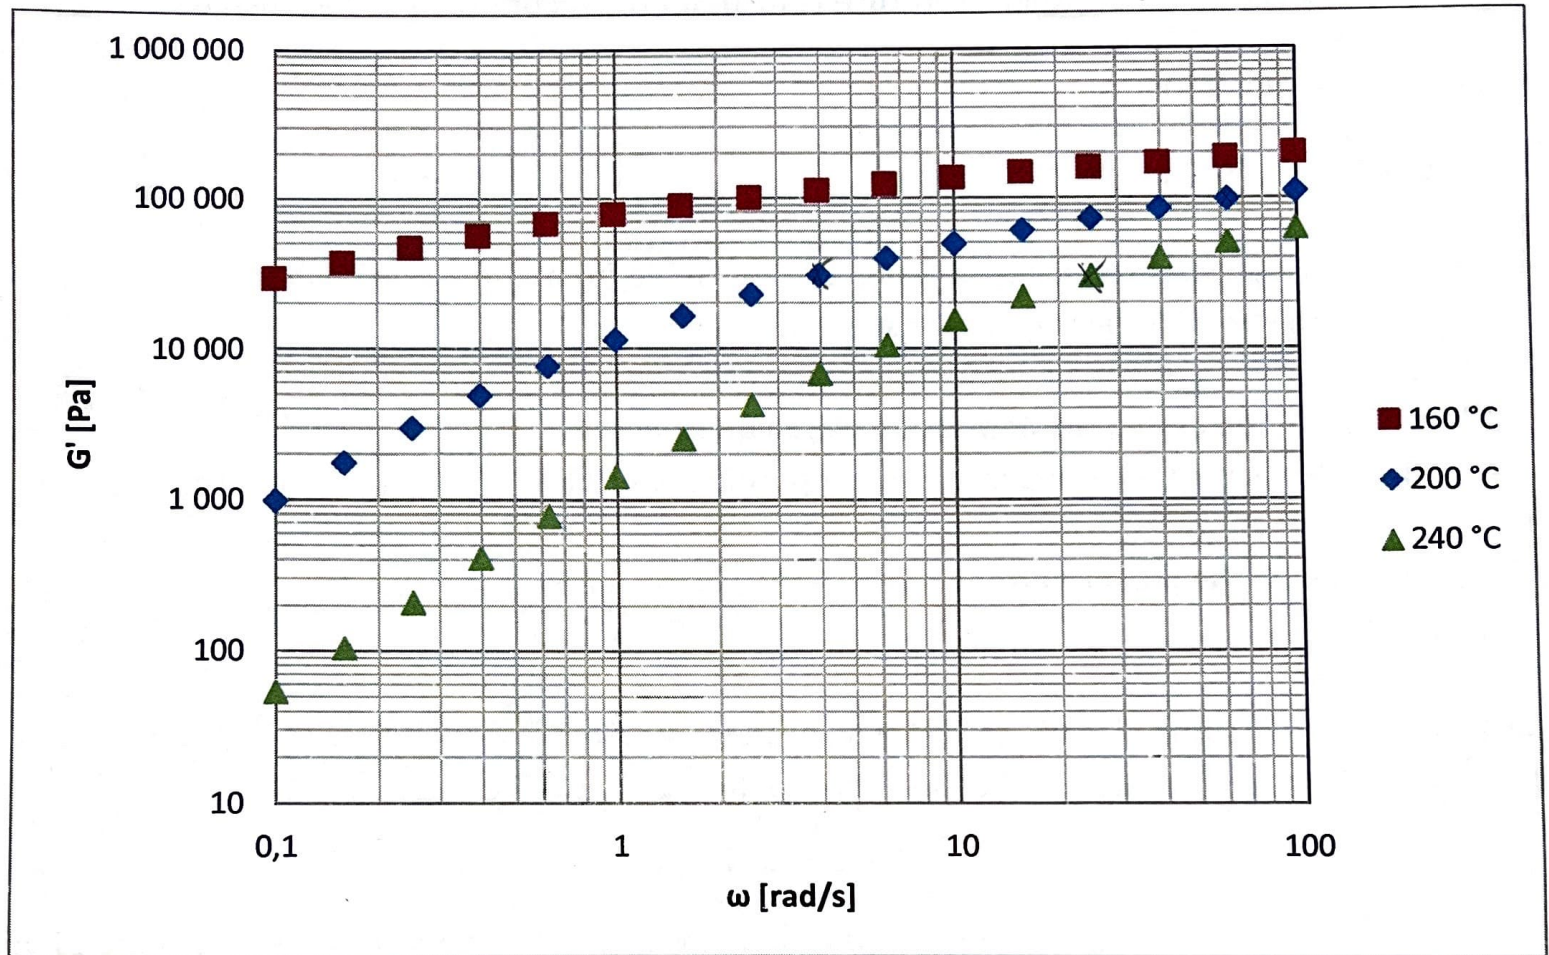

Figure 2. The storage modulus as function of the angular frequency measured at three different temperatures
5. **Calculation** The figure 2 shows the storage modulus $G'(\omega)$ for a polymer melt that follows time-temperature superposition principle at temperatures 160, 200 and 240 °C. Determine the temperature shift factor a_T , at temperatures 160 and 240 °C, when the reference temperature is 200 °C. Does the shift factor follow the Arrhenius equation? The intersection of G' and G'' at 200 °C is at 3.5 rad/s. At which angular frequency the G' and G'' are crossing at 240 °C?